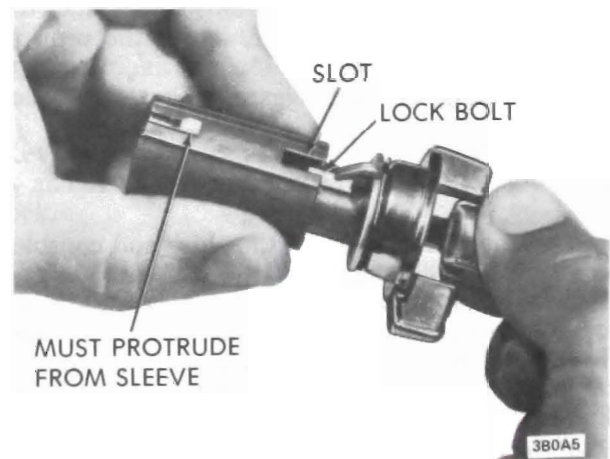

Figure OA-5 Ignition Lock - Assembly
3. Align the lock bolt on the lock cylinder and the tab on the anti-theft washer with the slot in the sleeve assembly. Push the sleeve all the way onto the lock cylinder assembly, push the ignition key the rest of the way in and rotate the lock cylinder clockwise. See Figure OA-5.